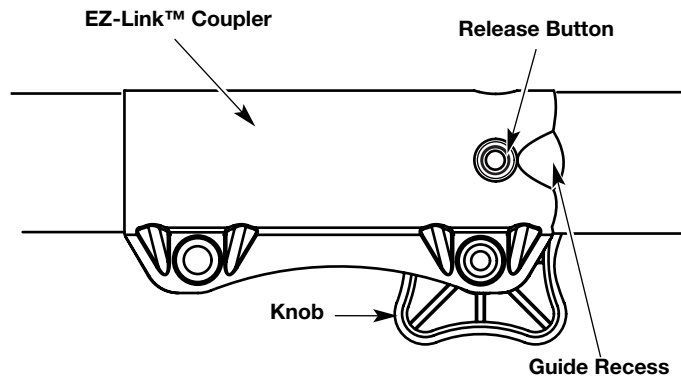

Fig. 22
1. Turn the knob counterclockwise to loosen (Fig. 22).
2. Press and hold the release button (Fig. 22).
1. Turn knob counterclockwise to loosen (Fig. 22).
**NOTE:** Aligning the release button with the guide recess will help installation (Fig. 22).